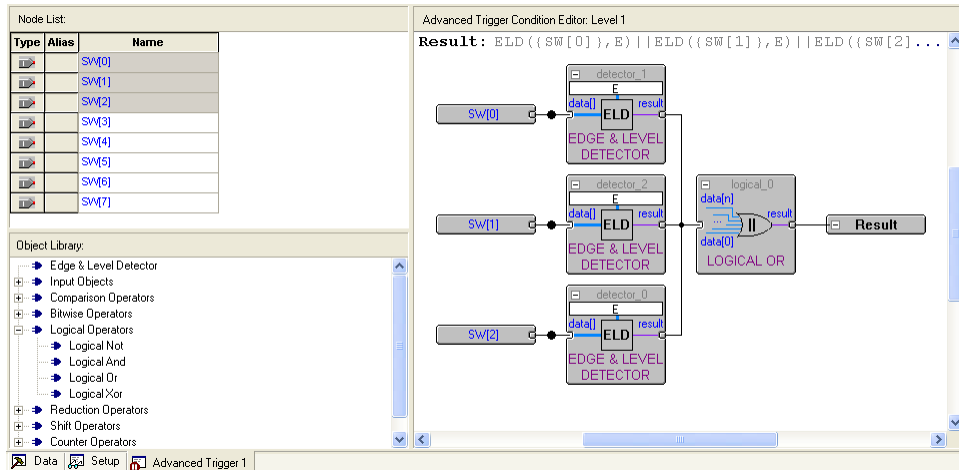

Figure 24. Arrange the elements to create a circuit that looks like this.
6. In the object library click Edge and Level Detector and drag this into the editing window. Do this three times and then arrange the circuit as in Figure 24. The three inputs should each be connected to the input of an edge and level detector and the output of each of these detectors should be connected to the OR gate. The output of the OR gate should be connected to the output pin already in the editing window.